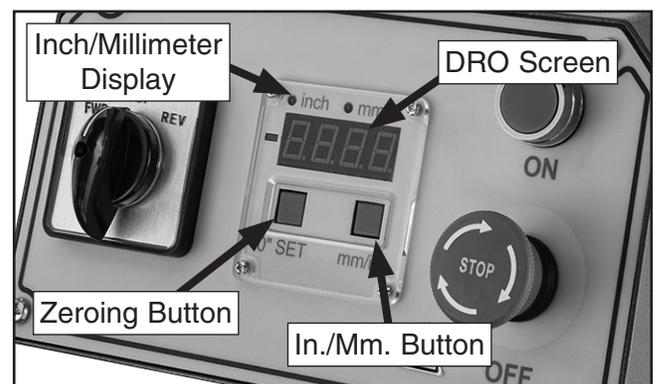

Figure 35. DRO components.
1. Use 0" SET button to precisely return spindle elevation height to 0" (see **Figure 35**).
2. Press mm/in. button to display height in either inches or millimeters. Selected unit will be illuminated (see **Figure 35**).
3. Use spindle handwheel to change spindle height, observing DRO screen until desired height is achieved (see **Figure 35**).